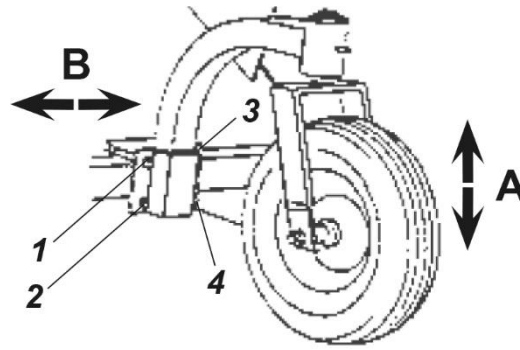

Figure 6.3
Please see Figure 6.3 for reference to the below procedure.
- 6.2.3.2. Lift or lower (A) the wheel (5)
WARNING! The wheels can be moved to the right or left, see Figure 6.3 (B).